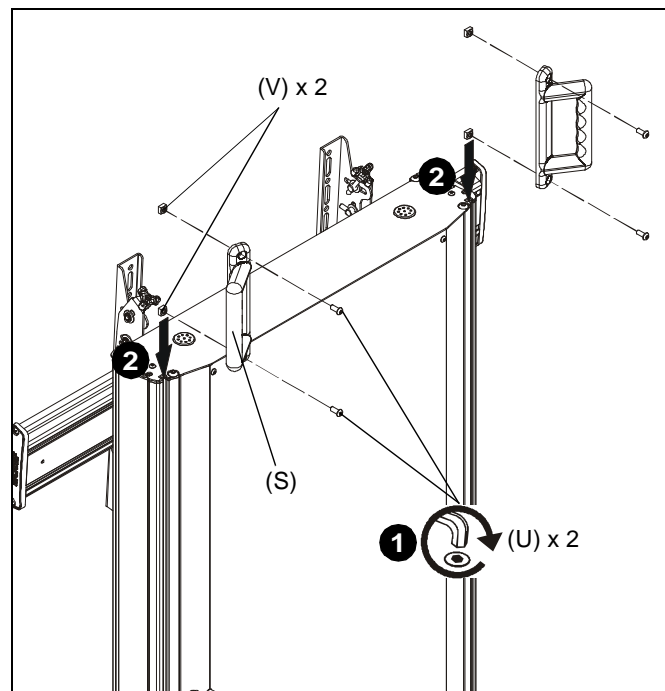

Figure 9
1. Loosely install two 1/4-20 x 1/2" button head cap screws (U) through holes in each handle (S) and into 1/4-20 square nuts (V). (See Figure 9)
2. Slide each handle into slots back of cart. (See Figure 9)